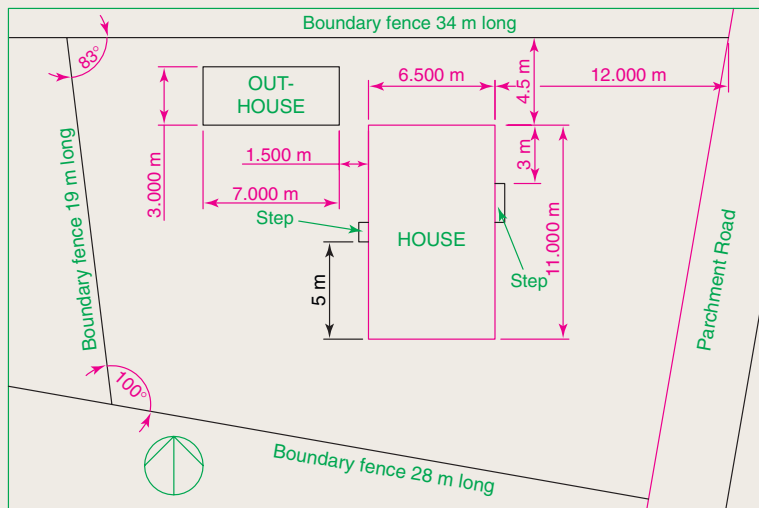

Fig. 16.29 Exercise 2
2. Fig. 16.29 is a site plan of a two-storey house in a building plot. Design and construct to a scale 1:50 a suggested pair of floor layouts for the two floors of the proposed house.